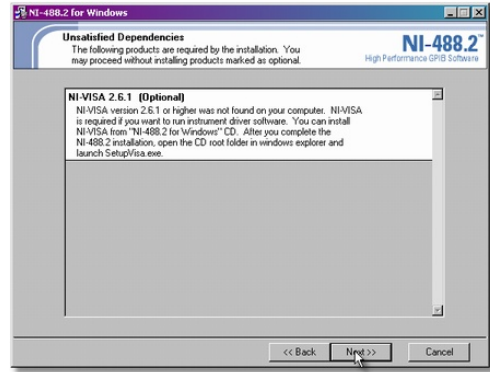

Figure 4G. Unsatisfied Dependencies dialog
**Note:** If an **Unsatisfied Dependencies** page opens, as shown in Figure 4G, you can disregard it. You *do not* need to install **NI-VISA 2.6.1** as the dialog suggests. Just click on the **Next >>** button.